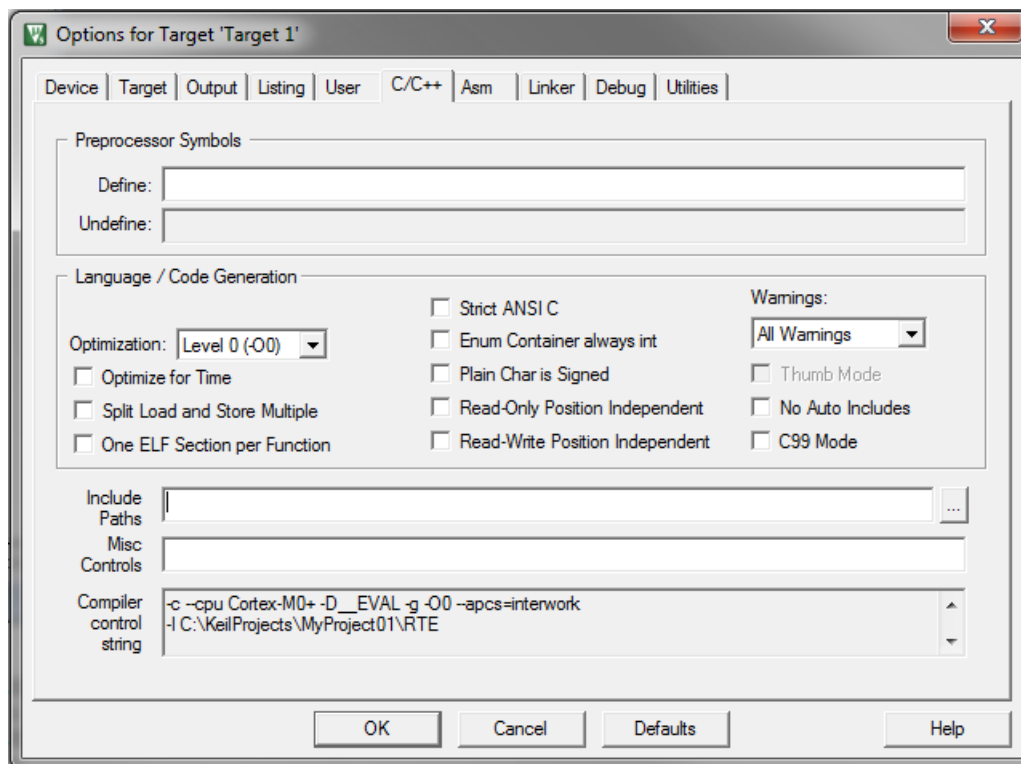

Figure 1-26. Library path addition
2. Select the C/C++ tab. See Figure 1-26.